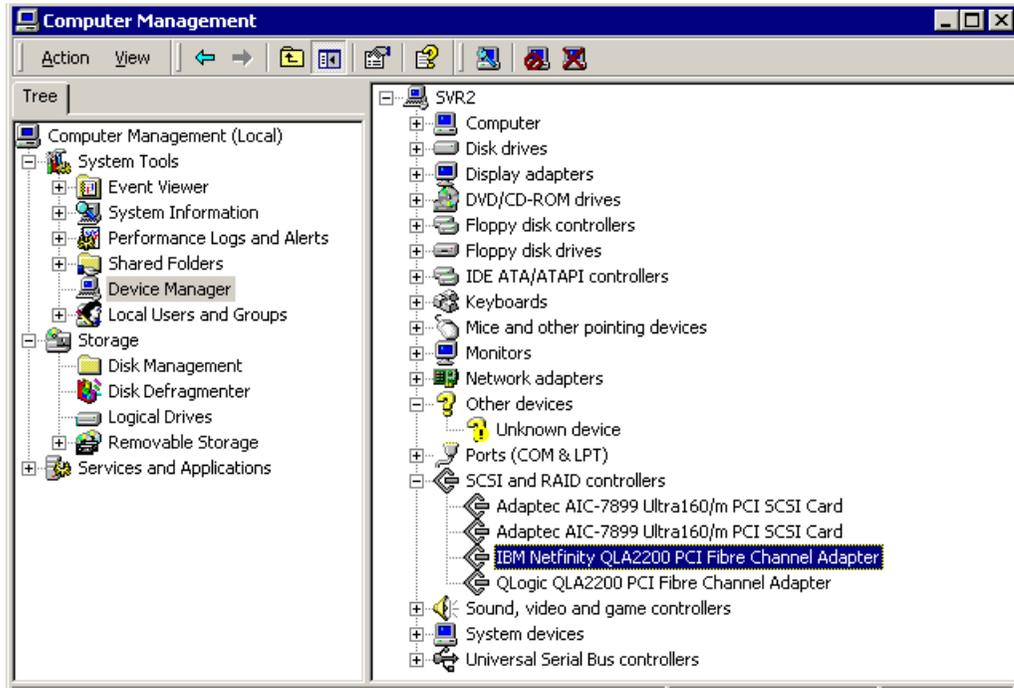

Figure 3-6 Device Manager after only one driver updated
- After the update is complete, the change is reflected in the Device Manager. For our example, as shown in Figure 3-6, the adapter detail has changed from IBM Netfinity QLA2200 PCI Fibre Channel Adapter to QLogic QLA2200 PCI Fibre Channel Adapter: